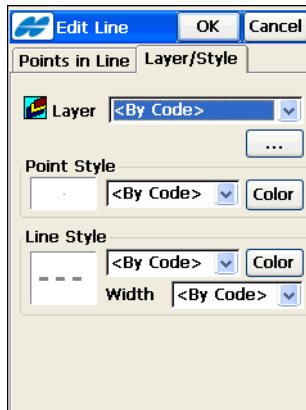

Figure 6-28. Edit Line/Point Style
5. On the *Layer/Style* tab of the **Edit Line** screen (Figure 6-28 on page 6-21), set layer and plotting properties to use to display the points and lines on the map and tap **OK**.